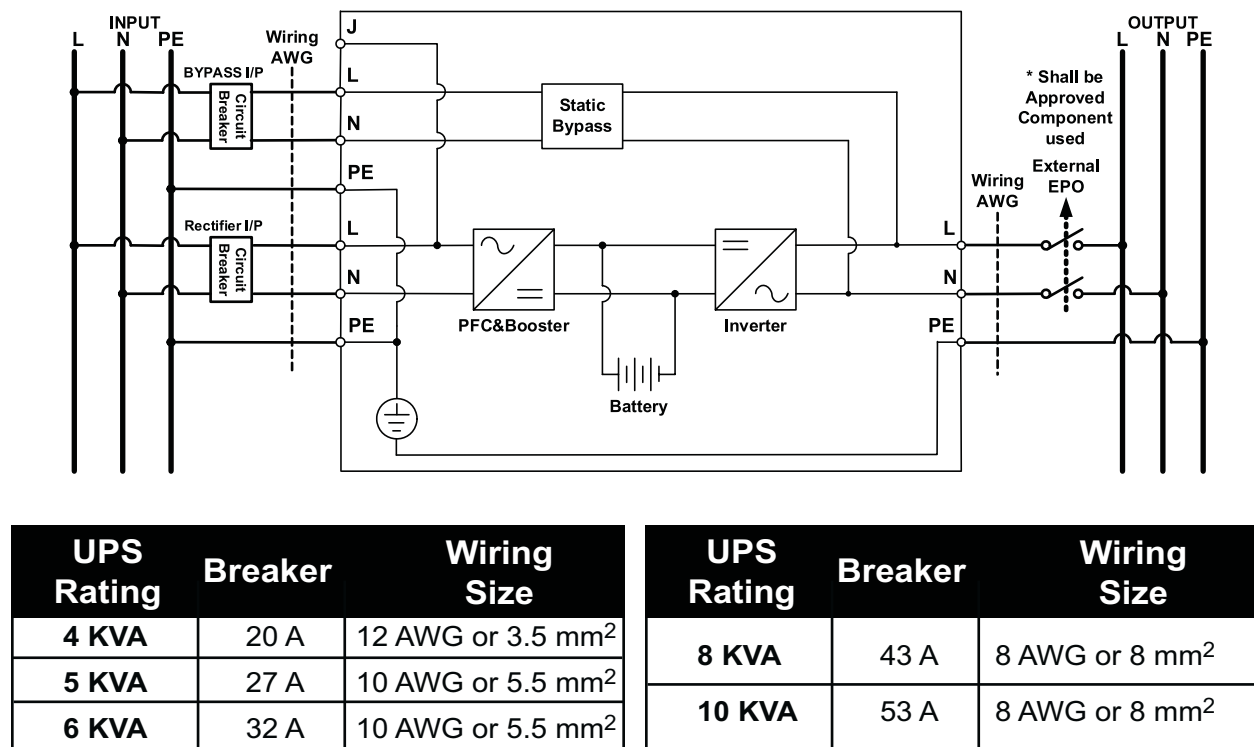
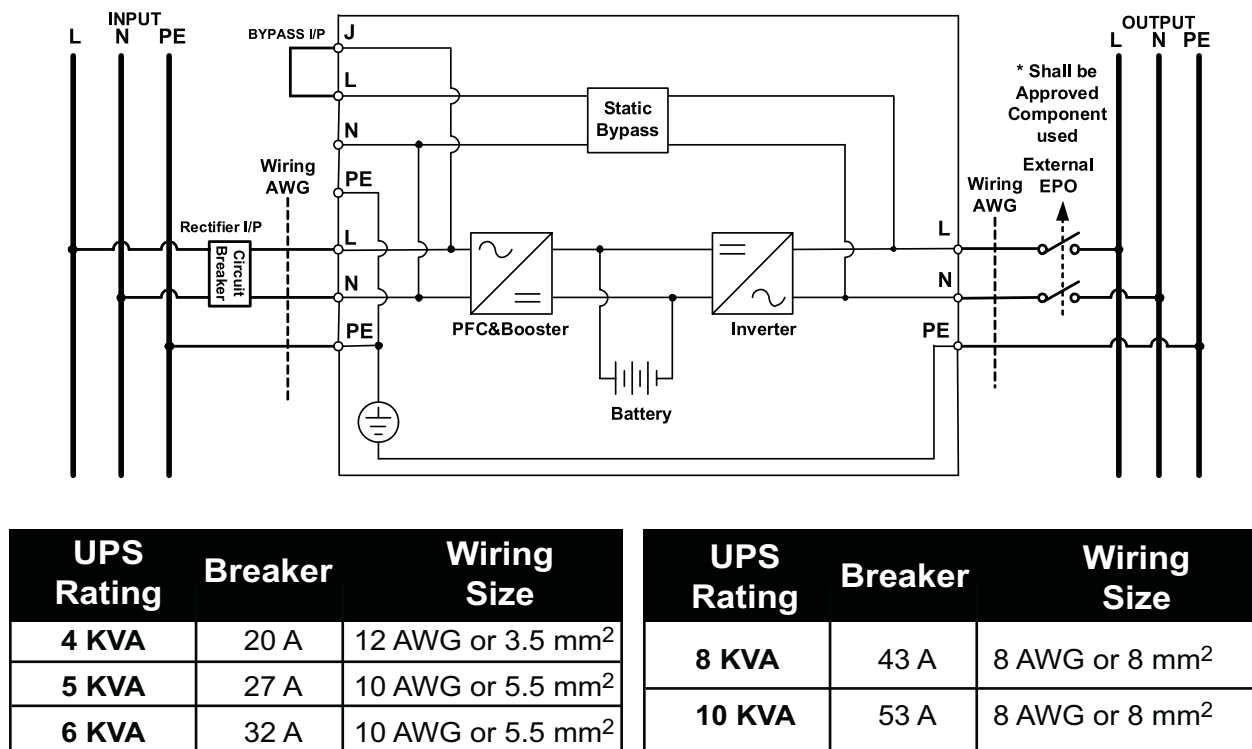

Fig. 2
Fig. 3
1. Ensure that all electrical connections have been correctly implemented for the installation site out. Refer to figure 2 in section 5.2 for correct fuse and cable conductor sizing.
3. Refer to figure 2 for single cable input connection and figure 3 for dual cable input connection. If installing dual cables, the interconnection jumper (J) shown in figure 2 needs to be removed.
5. Should the optional Emergency Power Off (EPO) circuit on the rear on the unit be used, the output of the UPS will shut down immediately as shown in figures 2 and 3.